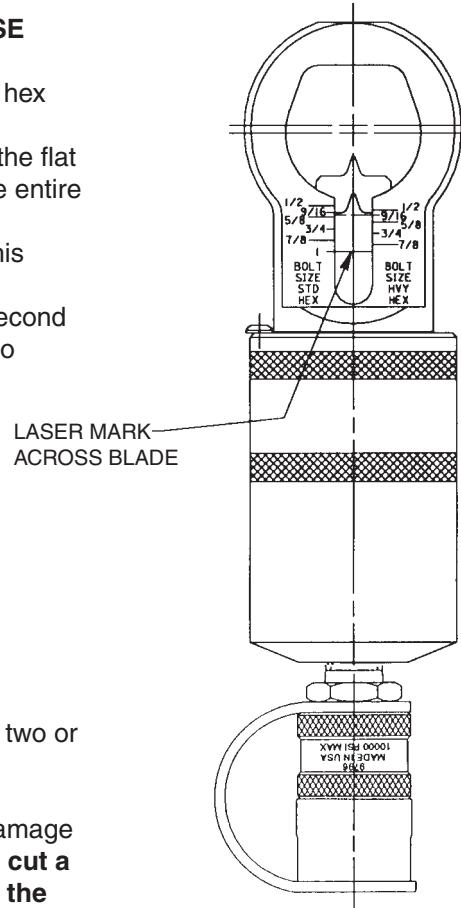

Figure 1
- Turn the Nut Splitter frame to align the laser mark with the correct hex size of the nut you are removing. See Figure 1.